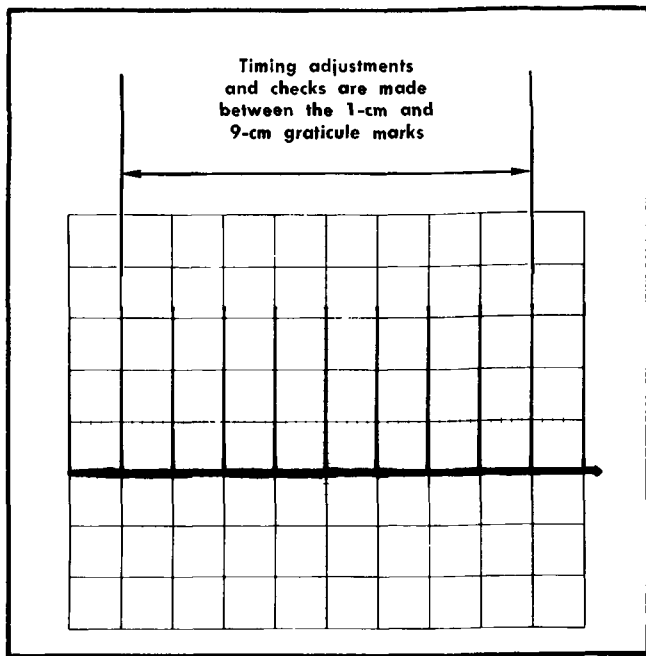

Fig. 6-30. Typical display, sweep timing adjustment; 1 millisecond markers; SWEEP TIME/CM switching, 1 mSEC.
g. Fig. 6-30 shows a Typical display.